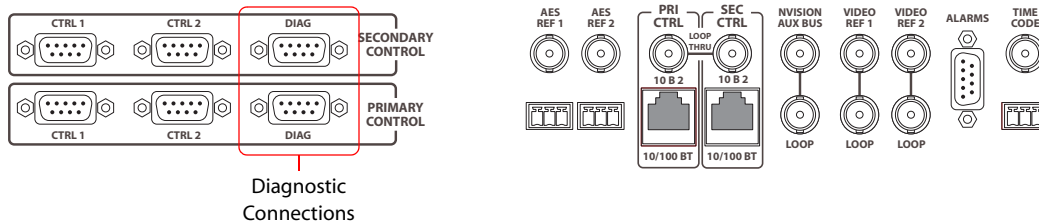

Figure 3-12. Diagnostic Connections (Rear View)
- 1 Locate the diagnostic connections on the rear of the router, as shown in Figure 3-12. The diagnostic connections are labeled 'DIAG'.